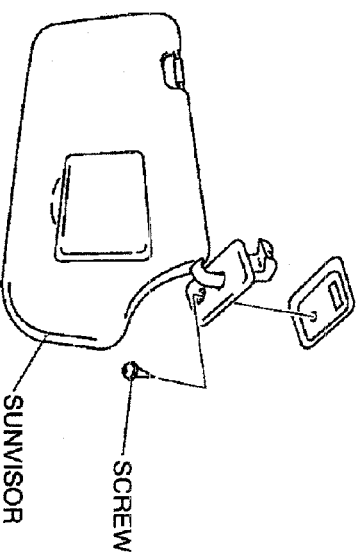

FIGURE 26
- 1.) REMOVE THE SCREW. (SEE FIGURE 26)
(SEE FIGURE 26)